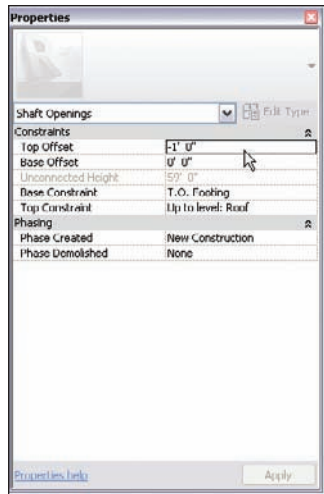

FIGURE 6.56 Setting the properties of the shaft opening
1. In the Properties dialog, make sure Shaft Openings is selected, as shown in Figure 6.56.
5. Click Apply. Figure 6.56 shows the settings.